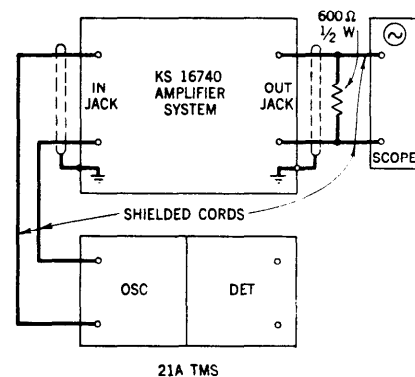
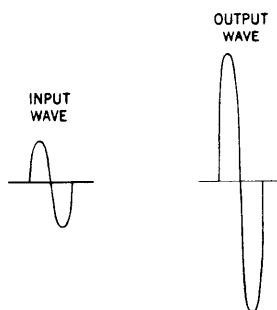

Fig. 3 - Test Setup for Observing Distortion (Waveshape)
Fig. 4 – Comparison of Input and Output Waveshape (Distortion)
6.01 The distortion test should be made in accordance with the test setup shown in Fig. 3. Chart III outlines the step procedure to be followed for the test. Fig. 4 shows a comparison between the input and output waveshapes where no harmonic distortion is present. The output waveshape should be considerably higher in amplitude than the input wave since the distortion is observed with maximum amplifier gain. Slight peaks and valleys on the output waveshape indicate the presence of distortion.
| 7 | Without changing output level of OSC, connect circuit as shown in Fig. 3. | |
| 8 | Observe input and output waveshape. | Requirements: Output waveshape shall appear the same as input except for amplitude. See Fig. 4. |